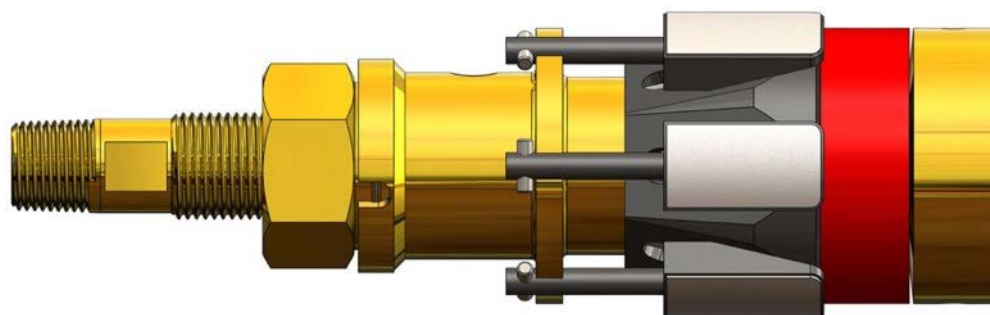

Figure 6: Ready to Install State (Compressed)
- 5.2 Tighten the **Compression Hex Nut(2)** so that the **ORB Spring Plate(3)** becomes flush to the **Wedge Cone(6)**, see Figure 6.
- In the Compressed state, shown in Figure 6, the GripSafe ST ORB plug will immediately grip the pipe upon insertion.